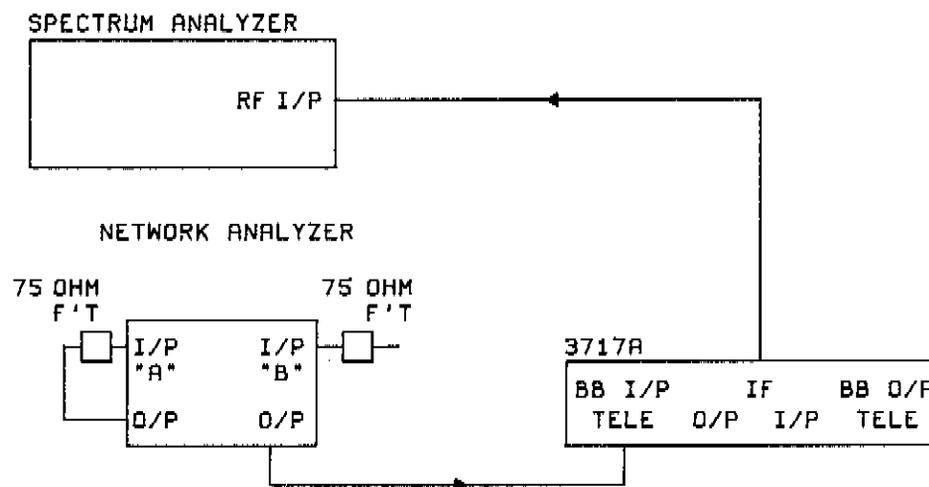

Figure 4-9 BB Input Sensitivity Test
1. Switch the 3717A OFF and then ON to preset the controls, and connect the test equipment as shown in Figure 4-9.